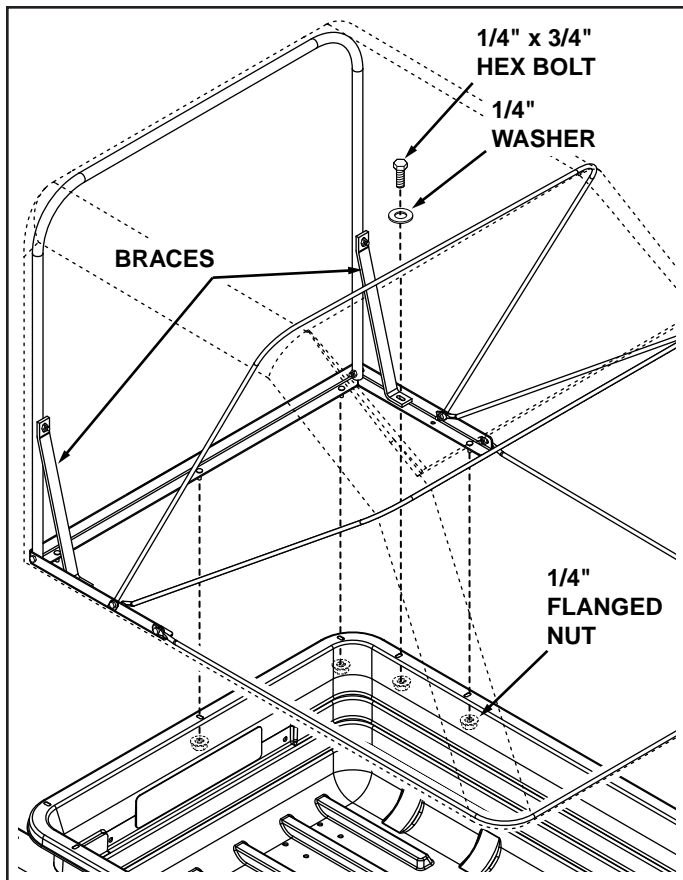

FIGURE 23
- Place the assembled cart cover on top of the cart, aligning the bolts in the top support angle with the holes in the cart. Assemble five 1/4" flanged nuts onto the bolts. **DO NOT TIGHTEN YET**. See figure 23.
- Attach the bottom of the braces to the top support angle and the cart using two 1/4" x 3/4" hex bolts, 1/4" washers and 1/4" flanged nuts. **TIGHTEN**. See figure 23.